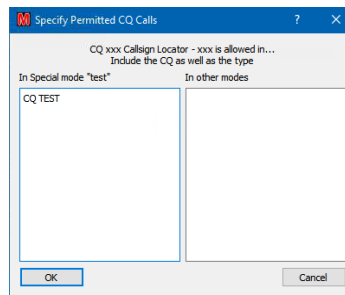

Figure 69 – Configure CQ auto responses
- **“Config CQ”**: Initiates the ‘Configure CQ’ dialogue (Figure 69) to define which CQ calls will result in an auto-response in both (Con)test and non-(Con)test modes so that in a contest there is no automatic response to non-contest calls and vice versa.